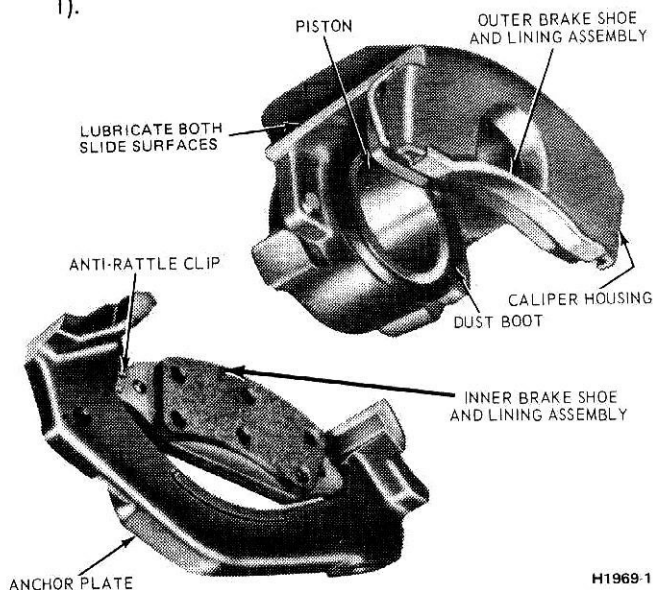

FIG. 8 Caliper and Outer Shoe Removal From Anchor Plate—Except Fairmont/Zephyr
1. Apply a thin film of (Spec. M1C172-A) grease to the V grooves in the caliper where it slides on the anchor plate (Fig. 8). Use only specified grease because a lower temperature grease may melt out and contaminate pads. Use care not to get grease where pads mount to caliper or anchor plate.
4. Be sure that the brake shoe anti-rattle clip is in place on the lower end of the inner brake shoe with the loop of the clip away from the rotor and the tab section in the shoe slot. Position the inner brake shoe and lining assembly on the anchor plate with the lining toward the rotor (Fig. 8).